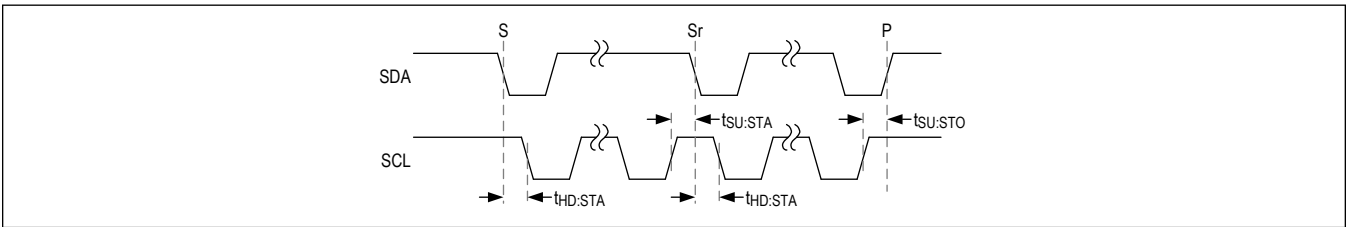

Figure 5. START, STOP and REPEATED START Conditions
A controller device initiates communication by issuing a START condition. A START condition is a high-to-low transition on SDA with SCL high. A STOP condition is a low-to-high transition on SDA while SCL is high (Figure 5). A START (S) condition from the controller signals the beginning of a transmission to the MAX16984A . The controller terminates transmission, and frees the bus, by issuing a STOP (P) condition. The bus remains active if a REPEATED START (Sr) condition is generated instead of a STOP condition.